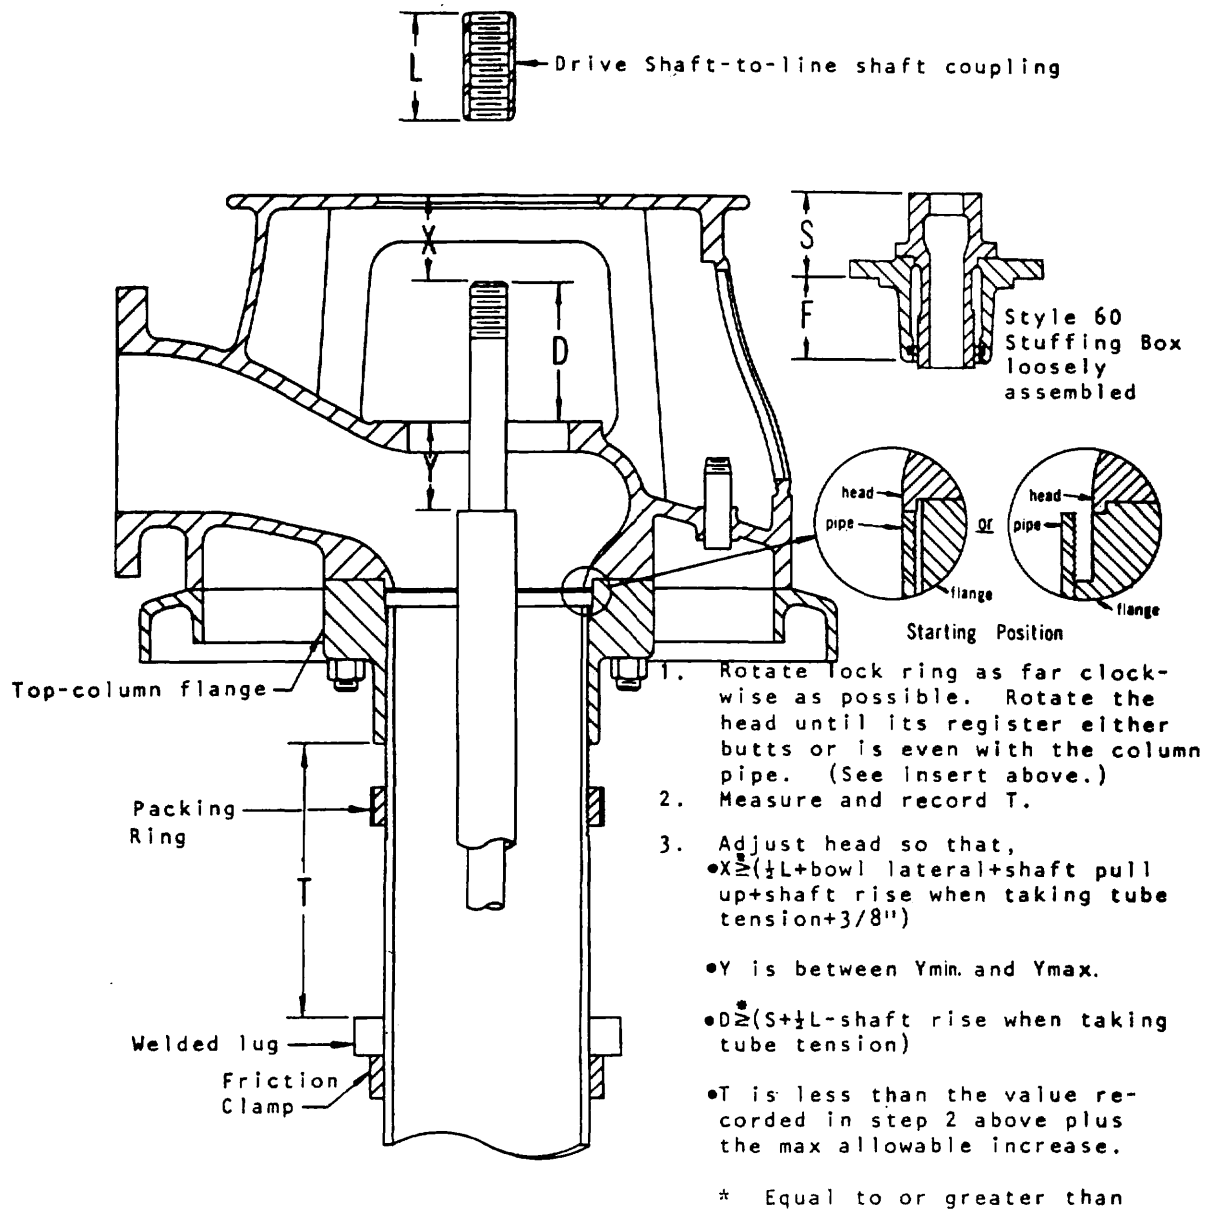

FIG. 18 - ADJUSTMENT OF TOP COLUMN FLANGE
Adjustable top column flange, enclosed tubeline, and style 60 stuffing box (See Fig. 18)
Rotate the head until its male register either butts or is even with the end of the column pipe (see insert on Fig. 18).
where: S = the stuffing box protrusion (see fig. 18)
Butt type top column flange, enclosed tubeline, and style 60 stuffing box. (See Fig. 18)
ON FIG. 18
**dimension "F" on Fig. 18 is approximately 3 1/2" for std. length and approximately 5 1/2" for extra long.
FIGS. 18 and 19